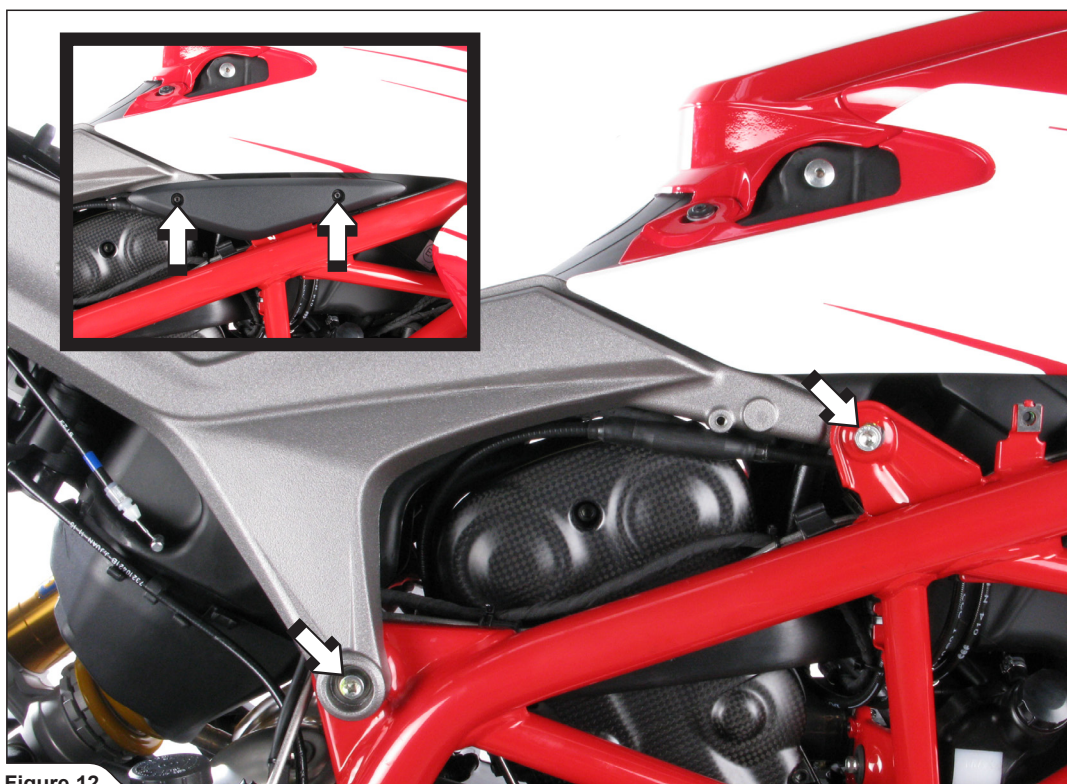

Figure 12
13. For Ducati Hypermotard 939 SP only: Unscrew the marked cover and subframe bolts (Figure 12).